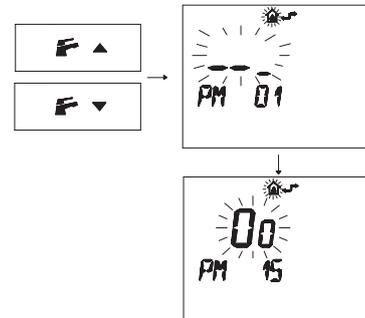

Figure 12.19
- Press the buttons **F** \blacktriangledown or **F** \blacktriangle to display the programming “PM15” external probe enabling (Figure 12.19).